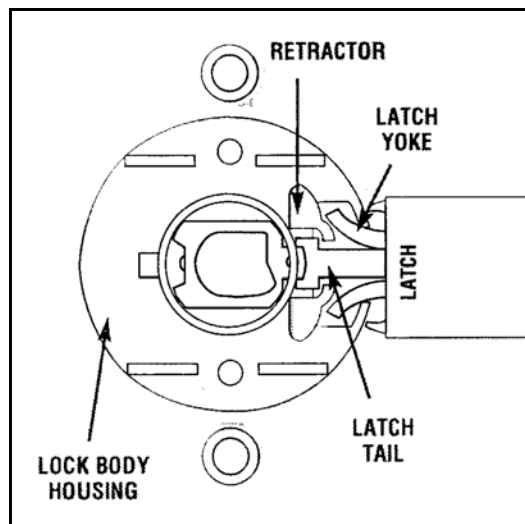

FIG. 8: VIEW FROM INSIDE OF DOOR
2. Insert outside lock body into door and be sure to properly engage the lock body with the latch as shown in Fig. 8.